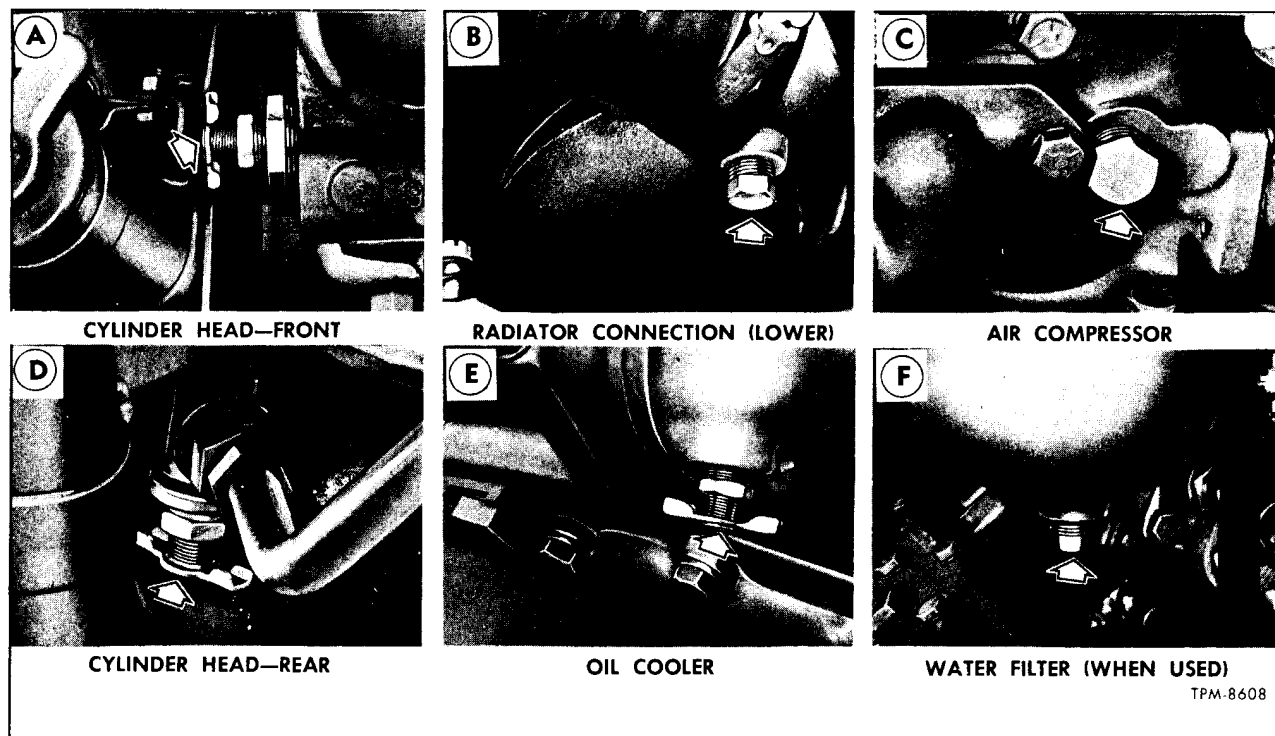

Figure 3—Location of Cooling System Drain Points
1. Remove drain plug from radiator outlet connection at bottom of radiator (B, fig. 3).
2. At air compressor, remove plug at side of cylinder block (C, fig. 3).
3. At bulkhead side of engine, open drain cock at oil cooler inlet (E, fig. 3).
4. At rear side of engine, open drain cock at front of cylinder block (A, fig. 3) and drain cock in air compressor water line fitting at cylinder block (D, fig. 3).
5. When used as special equipment, remove plug from bottom of filter housing (F, fig. 3).